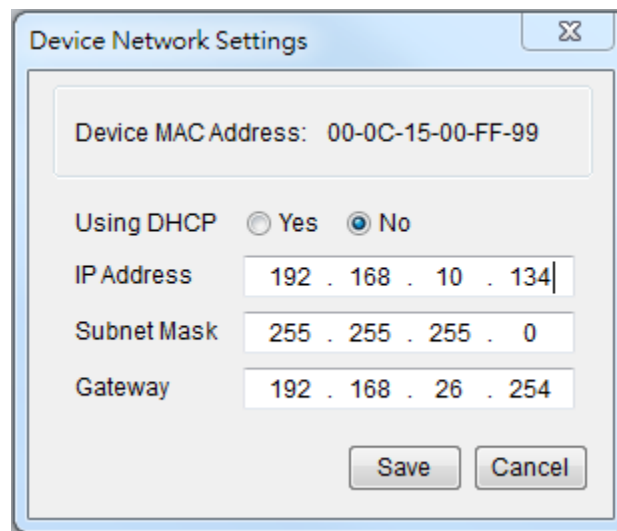

Figure 2. The Device Network setting window.
5. You can modify the IP Address, Subnet Mask, and Gateway address for the Device MAC Address listed in the Device Network Settings window, as shown in Figure 2. The default IP Address is 192.168.20.177 and the default Subnet Mask is 255.255.255.0.